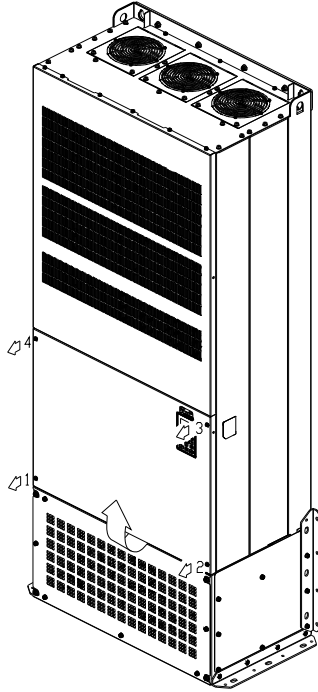

Figure 1
1. Loosen the screw 1–4 and remove the top cover 2. (figure 1) Screw torque: 14–16 kg-cm / [12.2–13.9 lb-in.] / [1.4–1.6 Nm]